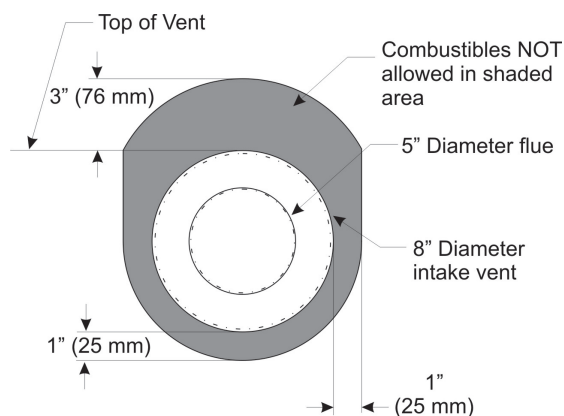

Figure 72
4. Install the Wall Firestop/Thimble assembly as required through the wall. Refer to the venting charts in the fireplace manual to determine the proper height and size of the vent opening. The minimum opening should be 10" wide by 12" high. The minimum combustible clearance from the horizontal vent is 1" from sides and bottom, and 3" above the vent pipe. See Figure 72.